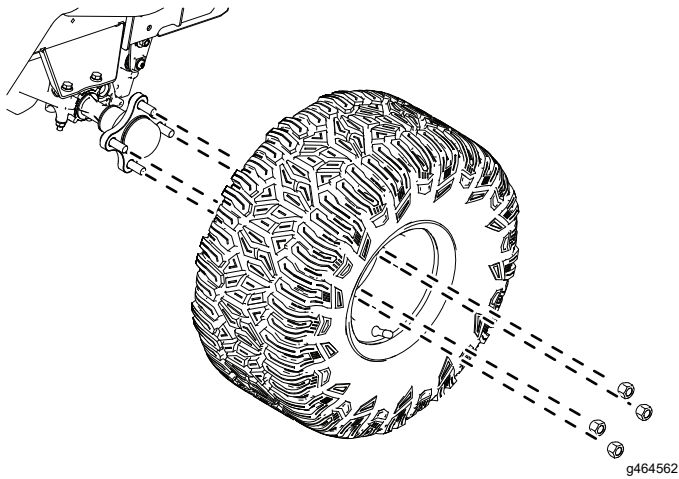

Figure 4
10. Remove the rear tires as shown in Figure 4